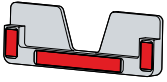

Fig. 19: Adhesive strip RFID card
4. Press the holder with the adhesive strips (see Fig. 19) onto the front laminate.